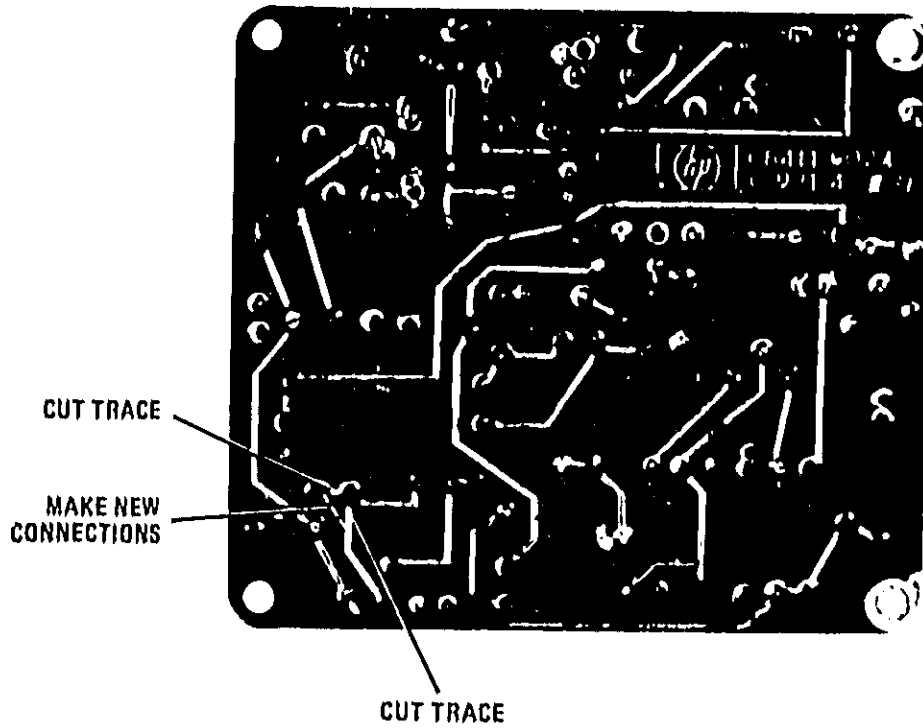
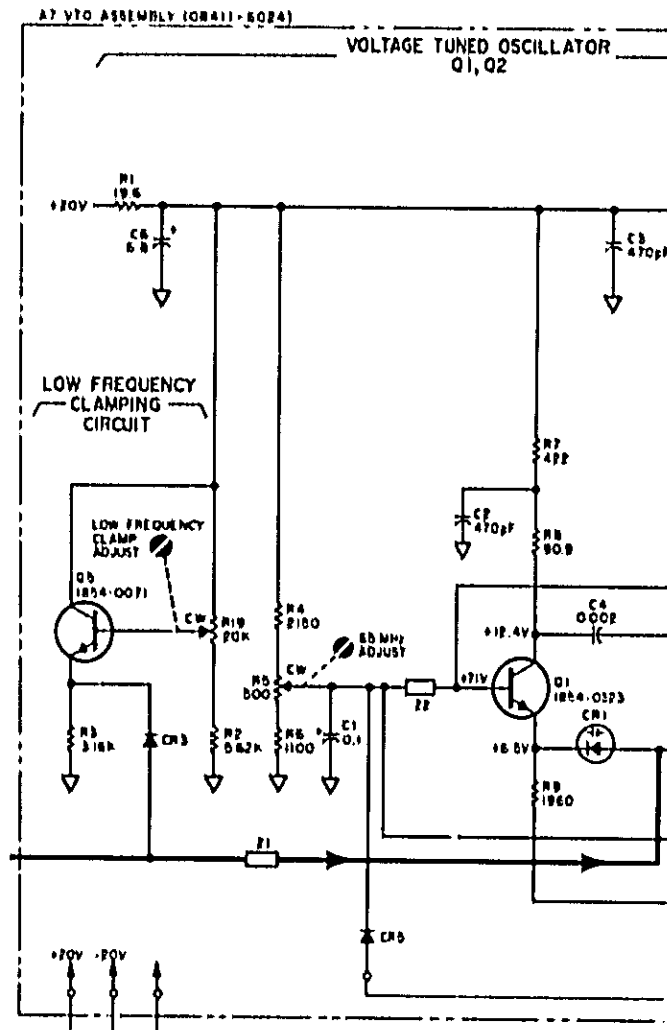

Figure 5-5. A7 08411-6024 Date Code C-931-4, Circuit Side After Modification
Figure 5-6. Partial Schematic of 08411-6024 Date Code C-931-4, Showing the Circuit Modification
The interaction between the 62.5 and 65 MHz adjustment on most 8411A can be minimized by making a simple circuit modification. The modification is to the A7 VTO Assembly, part number 08411-6024 Date Code C-931-4 only. There are three versions of the A7 assembly, 08411-6002, 08411-6024 Date Code C-931-4, and 08411-6024 Date Code D-1836-45. The 08411-6002 should not be modified. The 08411-6024 Date Code D-1836-45 already contains the modification. The Part Number and date code are located on the circuit side of A7 board as shown in Figure 5-5.
3. Locate the printed circuit board trace that connects the base of Q5 to the wiper of R19 (see Figure 5-5). With exacto knife or razor blade cut the trace between the wiper and the end of R19. Also cut the trace from the base of Q5 to R19. Solder a jumper from the wiper of R19 to the base of Q5. See partial schematic, Figure 5-6.